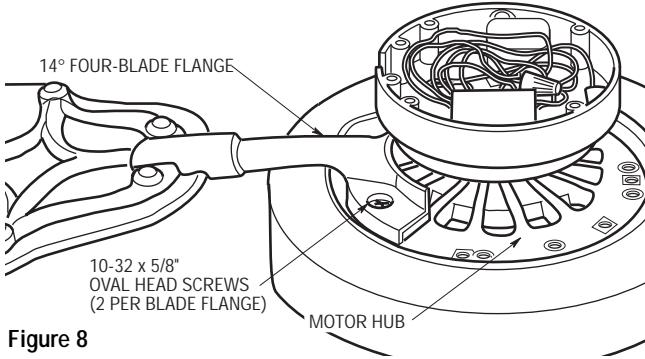

Figure 8
13. **FOUR-BLADE VERSION.** Attach one blade assembly to the motor hub using two 10-32 x 5/8" oval head screws (supplied) (Figure 8). Do not tighten completely at this time. Install remaining blade assemblies in the same way. Gently snug all flange screws to the motor hub, working around the hub in a clockwise sequence. Next, securely tighten all flange screws, again working in a clockwise sequence. Failure to follow this procedure could result in fan wobble.